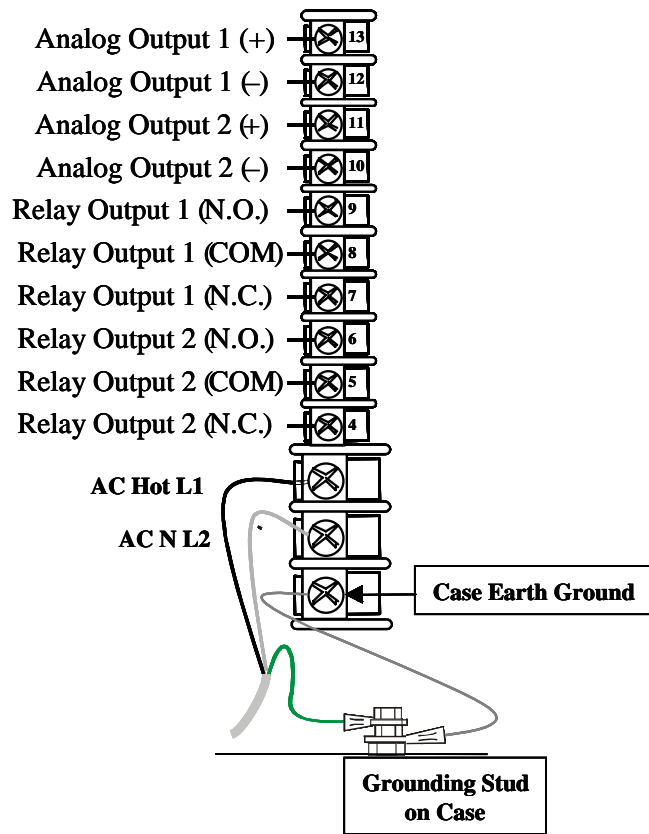

Figure 4-1 Power Wiring
6	<p>Each unit has (4) 22.22mm [.87"] dia. holes on the bottom of the unit for lead wires and conduit fittings. Conduit fittings to be supplied by the user.</p> <p>Feed the power wiring through the wiring port on the bottom of the case. Connect the power wiring to terminals L1 and L2/N as shown in Figure 4-1. Connect the Green safety ground wire to the grounding stud on the case.</p> <p>Attention: Terminal 1 must be connected to the ground stud on the grounding bar using a #14 AWG UL/CSA-approved wire.</p>